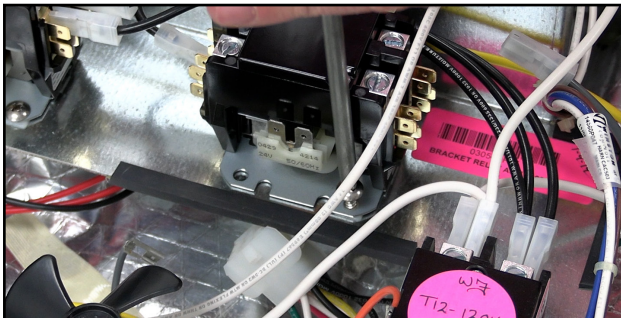

Fig.92
13. Using a Phillips screwdriver, secure the new relay. (Fig.92)